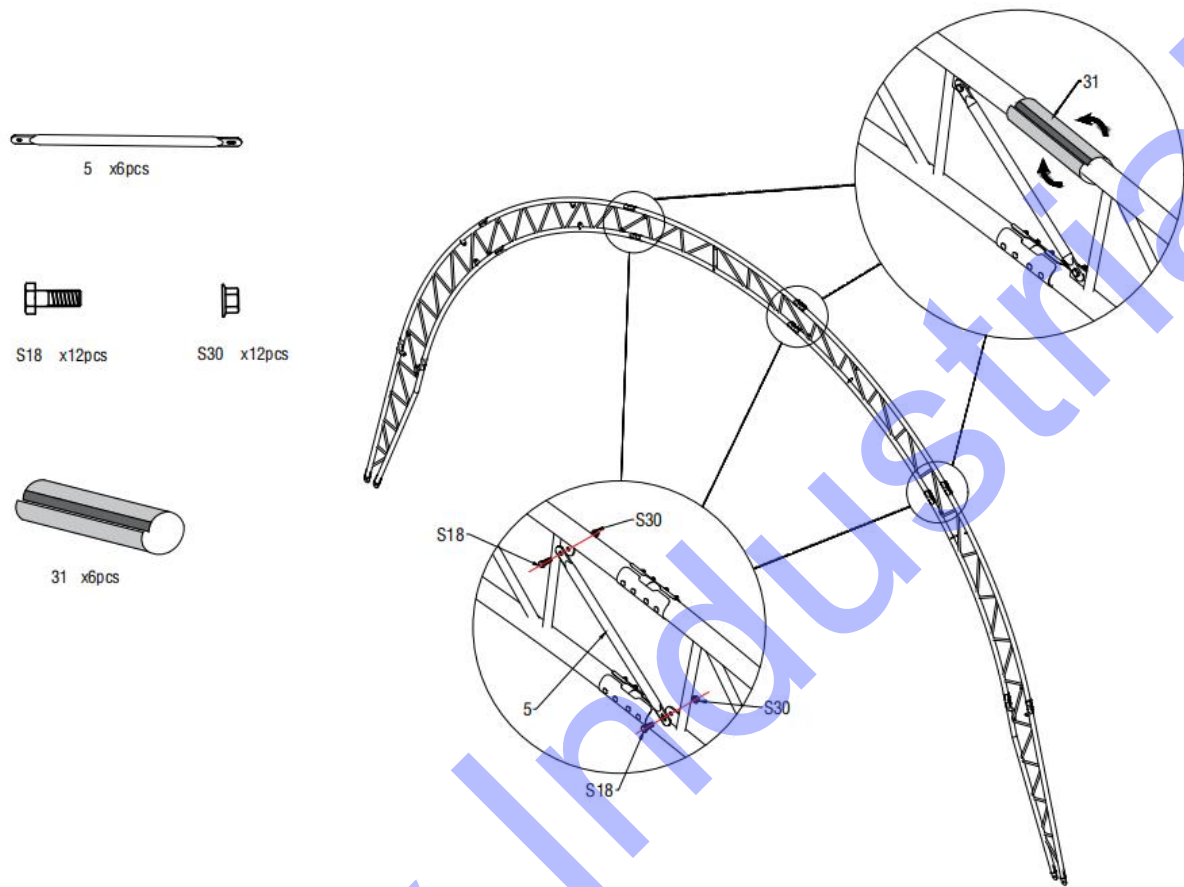

Figure 5
3. As figure 5 shown, use the Supporting Webbing between the arch(No.5) to connect the Top roof tube (No.1) with hexagon bolt 10*30mm (No. S18). Then put the PVC protective cover on the outer of connection of the arch to protect the roof cover from scratched by the outer joint. Assemble the rest of the other group double truss arch like this.